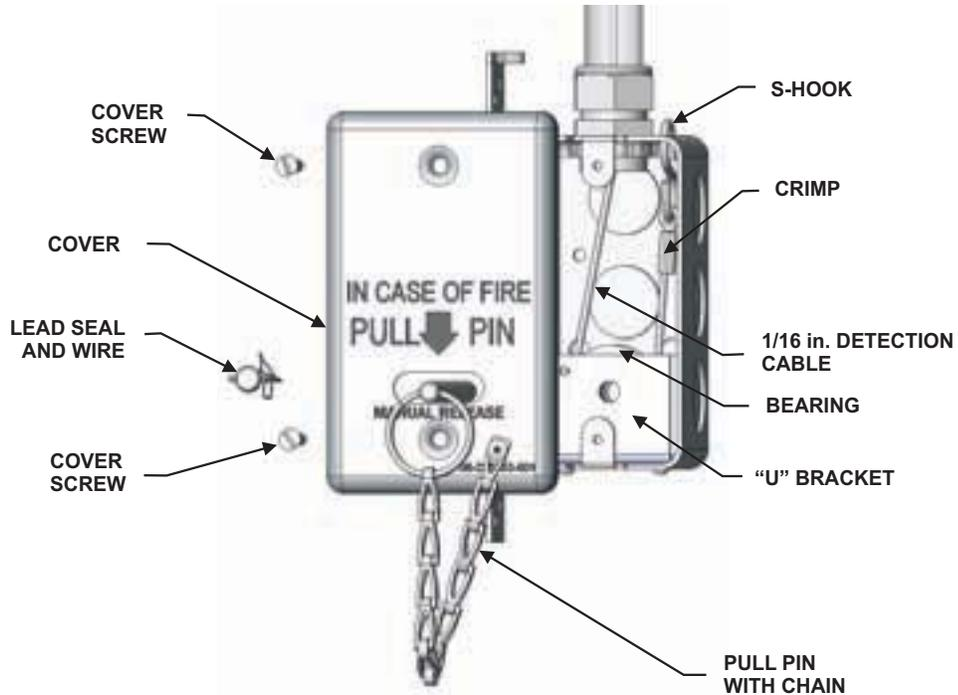
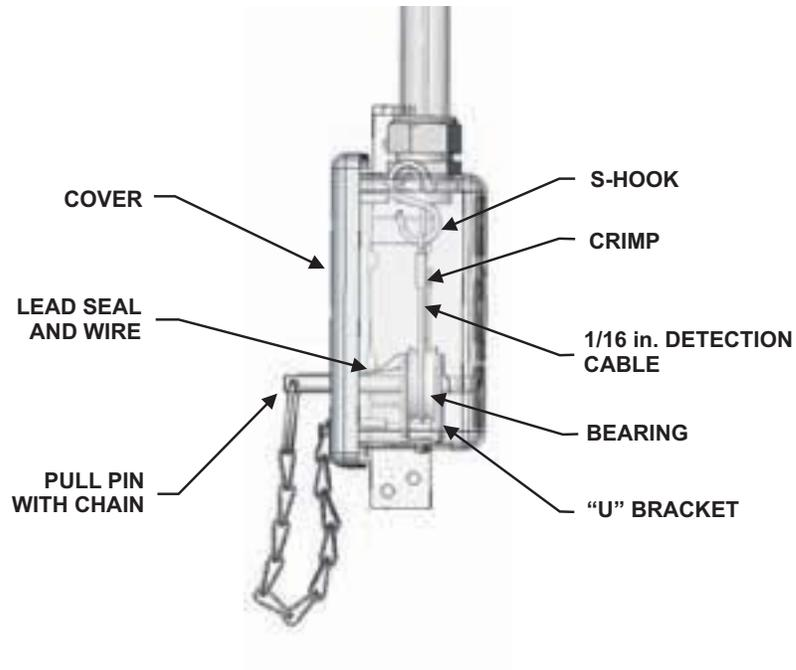

Figure 4-69. Recess Mounted End-of-Line Remote Manual Control, P/N 9197461
Figure 4-70. Recess Mounted End-of-Line Remote Manual Control (Side View), P/N 9197461
14. Attach the S-hook up and through the 3/32-inch (2.5 mm) diameter hole on the upper right side of the control box as shown in Figure 4-69 and Figure 4-70.